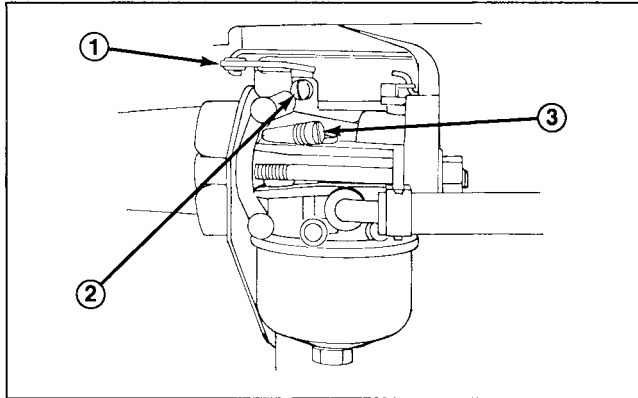

Figure 20
1. Gently turn idle mixture valve clockwise until it **just** closes (Fig. 20). Turning valve in too far may cause damage.
4. Rotate throttle (Fig. 20) counterclockwise and hold against idle speed adjusting screw (Fig. 20) while